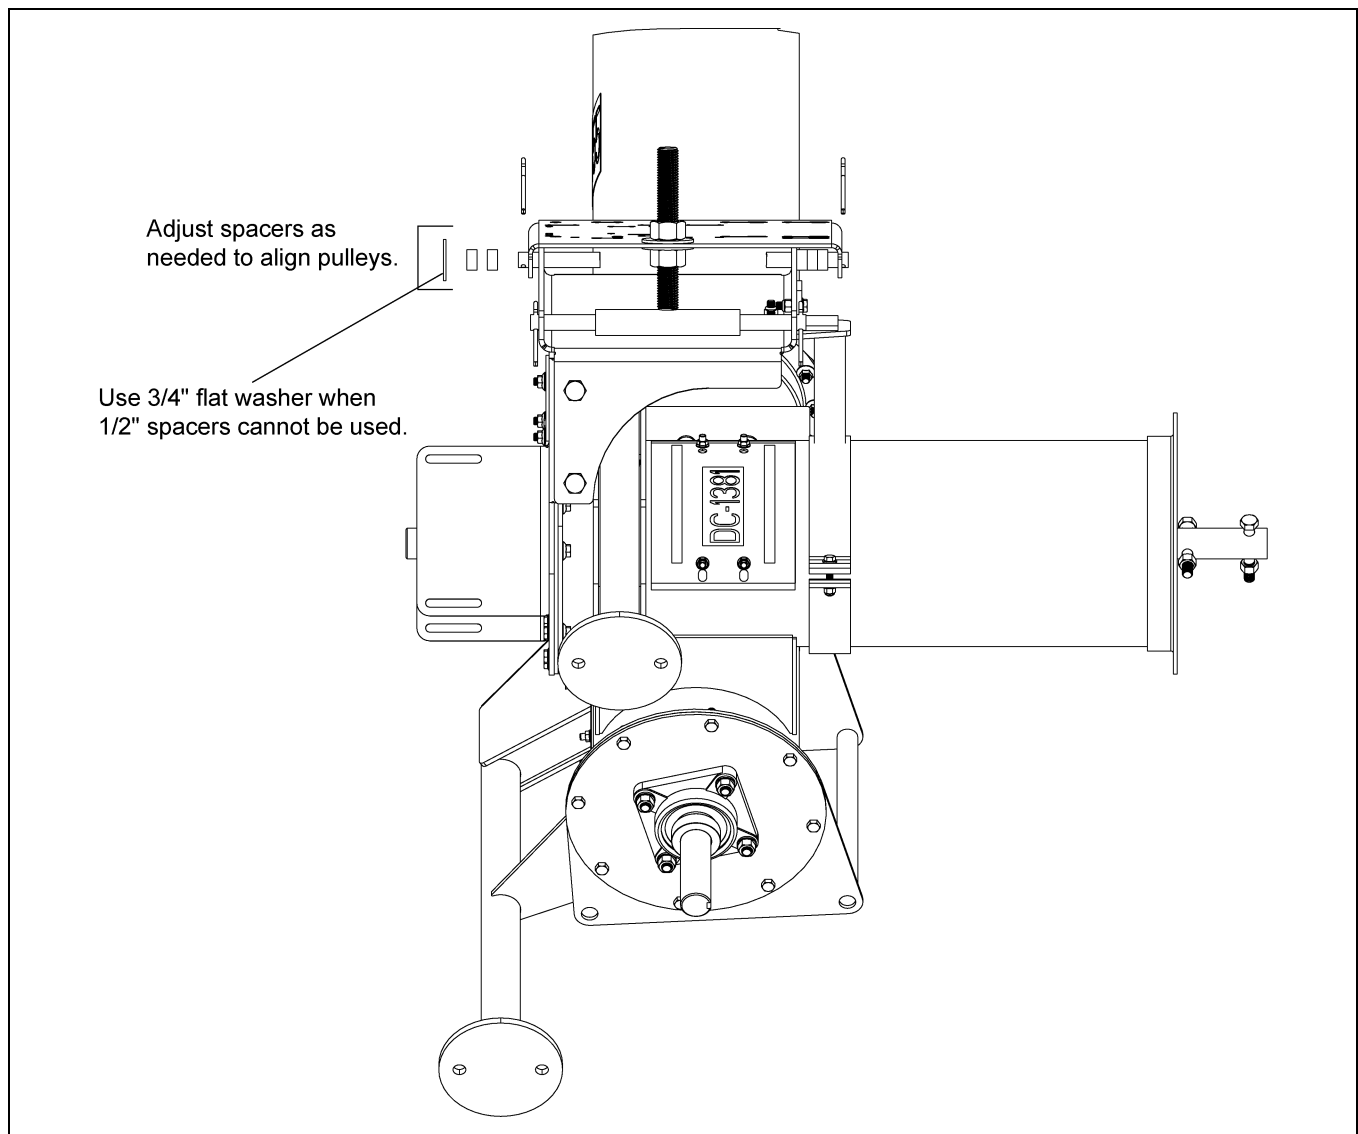

Figure 4U
2. Install the drive pulley onto motor shaft making sure that it is aligned with the flight pulley. It may be necessary to move spacers to gain shaft alignment. Use the 3/4" flat washer where the 1/2" spacers cannot be used. (See Figure 4U on Page 26.)